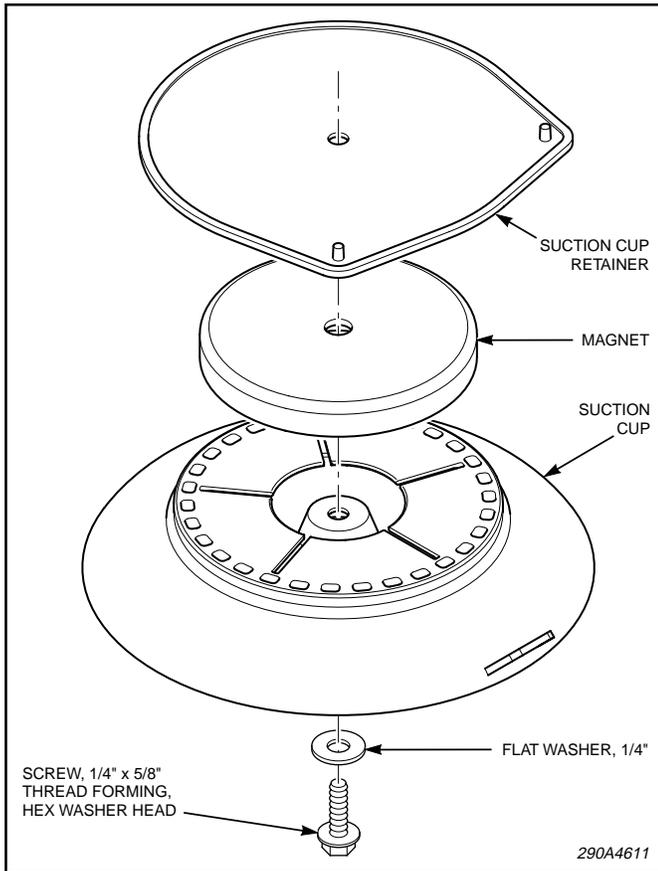

Figure 3.
1. Place a magnet into each suction cup as shown in figure 3. All five flaps should cover the magnet. Place a suction cup retainer onto the suction cup; align the posts with the suction cup as shown in figure 3. The release tab should be centered between the two posts on the top of the suction cup retainer.